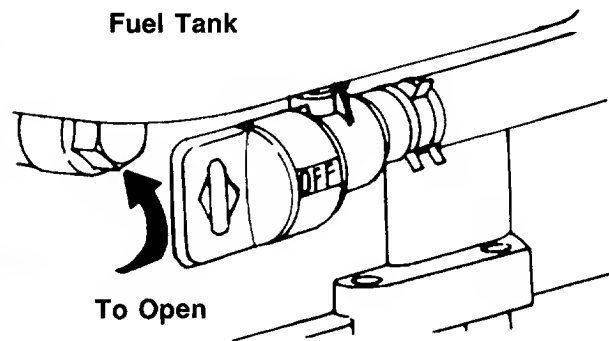
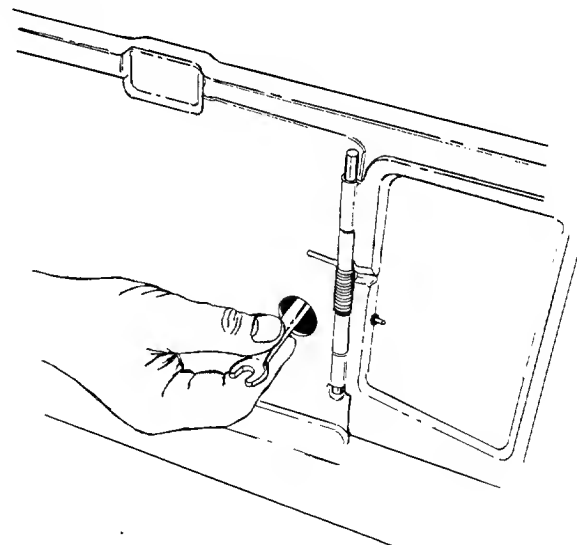

FIGURE 20.
FIGURE 21.
4. The fuel shut-off valve is located beneath the fuel tank. On Model 112, an access hole is provided in the catcher panel. The fuel shut-off valve should be in the open position. See figure 20. Open fuel shut-off valve using a wrench if it is closed. See figure 21.